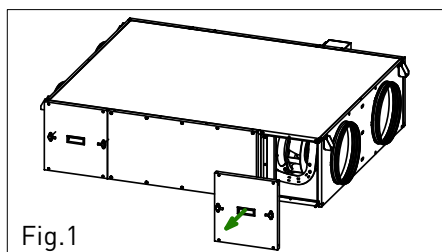

Fig.1
2. Remove the side panel (fig.1).
1. Access to the filters is done by removing the two existing side panels on the side where the electrical cabinet is located (Fig.1).
- Loosen the screws that hold the side panel. Before releasing the panel, ensure that it is well supported by the operator, preventing it from falling (Fig. 1).
- Remove the access panel for the affected fan (Fig. 1).